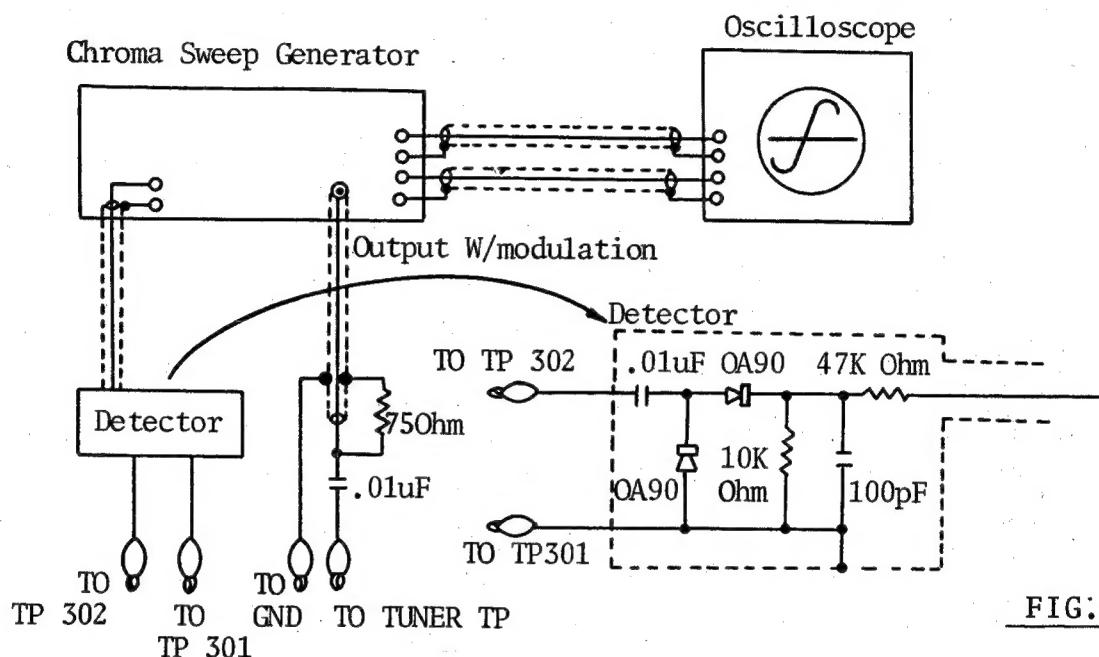

FIG.9
A. PREPARATION STEP (SEE FIG. 9)